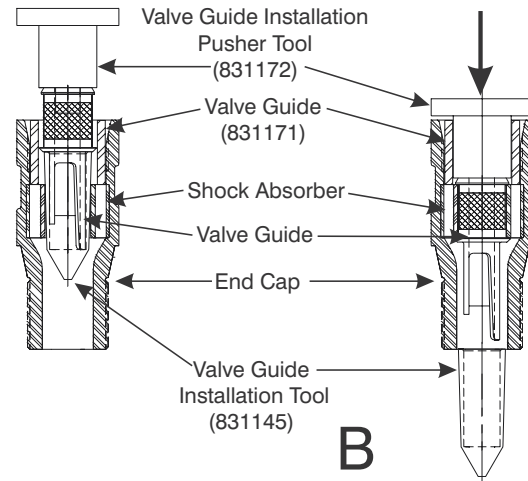

Figure 9-10. Press Valve Guide into End Cap and Shock Absorber.
14. Slide the alignment post of the Valve Guide Pusher into the upper end of the Valve Guide as shown in Figure 9-10-A.
15. Align the plunger of the arbor press with the Valve Guide Pusher and carefully press the Valve Guide (7) through the Guide Sleeve and into the Shock Absorber (9) as shown in Figure 9-10-B.
16. Continue pressing the Valve Guide into the Shock until the upper shoulder of the Valve Guide seats against the edge of the Shock Absorber as shown in Figure 9-10-B.
19. Refer to Figures 9-10-B and 9-11 and verify that the Shock Absorber is securely seated between the shoulders of the Valve guide.